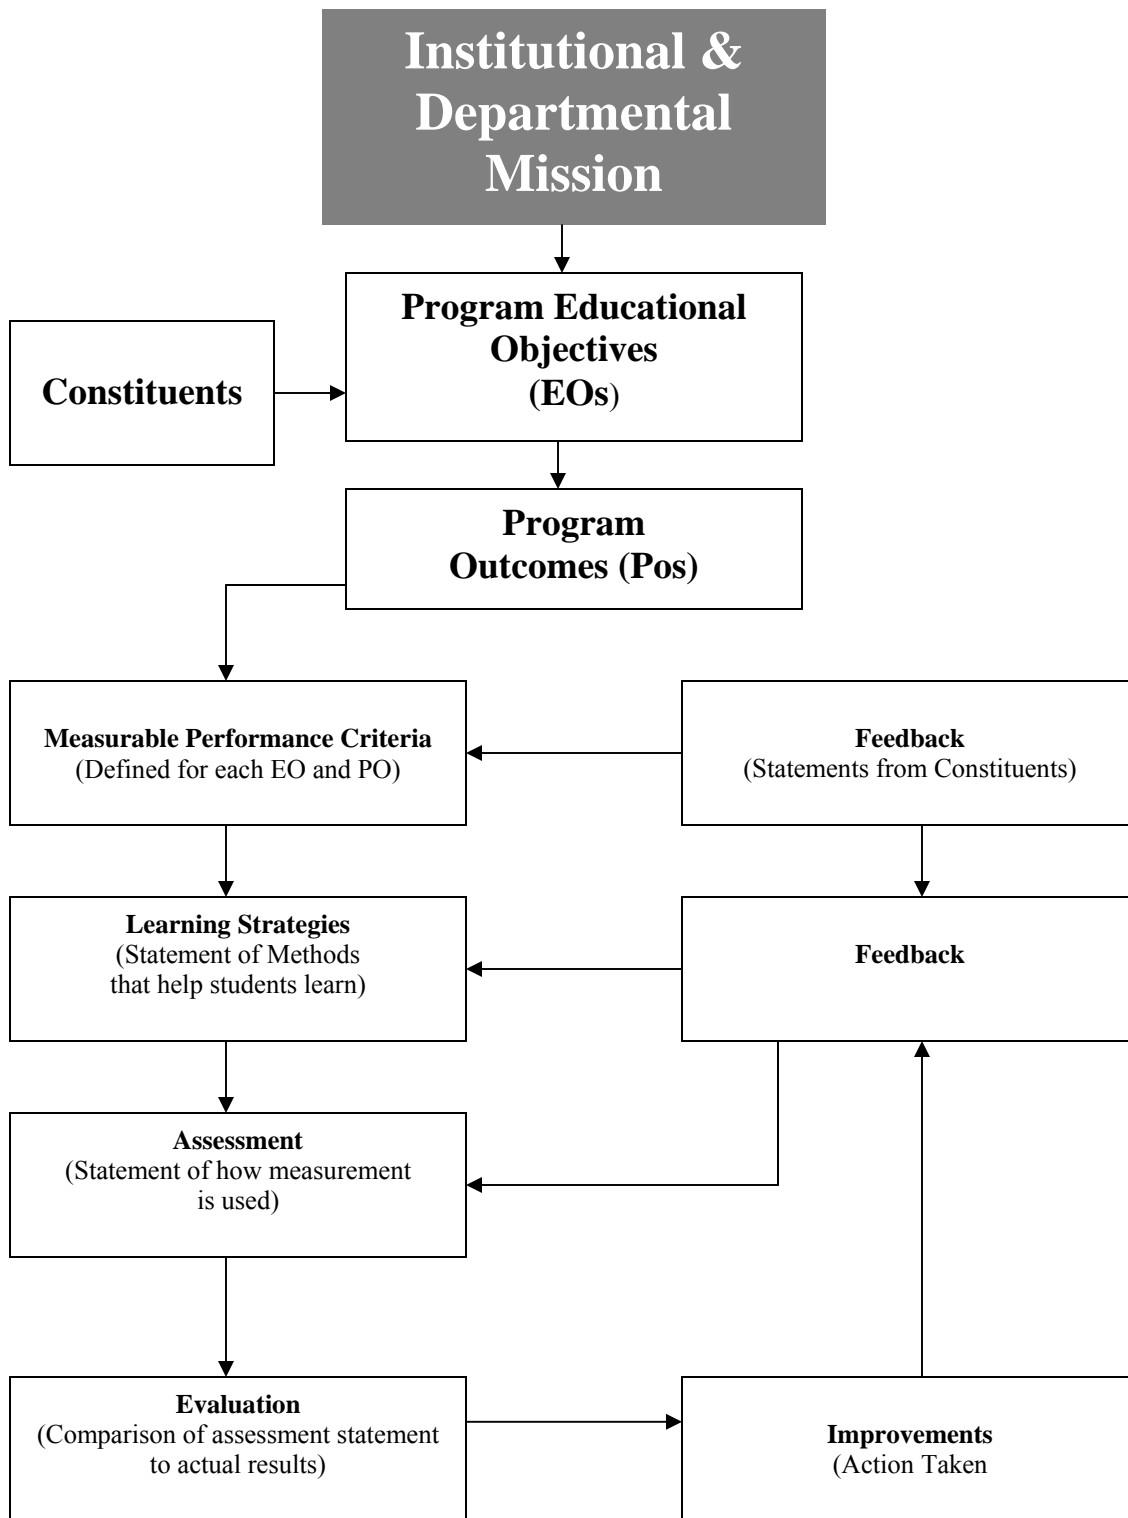

Figure B3.1 Continuous Improvement Process Flow Chart
There are two primary levels of activity in the assessment of program outcomes. The first level is individual faculty assessment of achievement of student outcomes in specific courses, the results of which comprise one assessment tool; the results of the individual course assessments are forwarded to the Outcomes and Assessment Committee. The second level is the broader, overall assessment by the Outcomes and Assessment Committee, utilizing all of the assessment tools to be described in this chapter. The assessment of outcomes and objectives involves use of the Continuous Improvement Loop process depicted in Figure B3.1. This process is adapted to each level of activity, and this schematic forms the assessment format for each program outcome.
A set of outcomes assessment materials for the Spring 2006 Engineering Mechanics I (Statics) course, ME 236, is attached to this chapter as *Addendum 2*. The course syllabus states the program objectives, program outcomes, professional components, and program specific criteria that are relevant to this course. For each program outcome targeted (in this case (a), (e), and (j)) the assessment chart of Figure B3.1, as completed by the instructor, is presented. The block labeled “Improvement” is the instructor assessment of steps needed to improve the quality of the course. The faculty-generated assessment results for those courses to be assessed in a given semester are provided to the O&A committee for further review. The implementation of these individual course assessment tools, tied directly to the course syllabus, provides better quality control of course content than previously existed, because the same syllabus applies no matter who teaches the course.
1. Faculty outcomes assessment in courses (implemented) This will be a primary tool in the assessment of outcomes. For each required mechanical engineering course, the relevant program outcomes are listed in the course syllabus. For targeted outcomes, an assessment flow chart similar to the overall assessment plan (Figure B3.1) defines the measures and assessment metrics used to assess the level of attainment of that outcome in that course. An example is shown in Addendum 2 at the end of this section. For the course, ME 236 Mechanics I, the syllabus notes that outcomes (a), (e), and (k) are addressed in this course. For each of these three outcomes, there is a flow chart stating a specific outcome, how that outcome is measured, assessment metrics, an evaluation, and plans, if any, for improvement. Faculty perform these evaluations for each required course each semester. The results for all of the courses for a given semester are collected and are used by the O&A committee, according to the evaluation schedule shown in Table B3.3. Table B3.5 maps outcomes to required course with shading indicating which courses are being assessed in the current year.